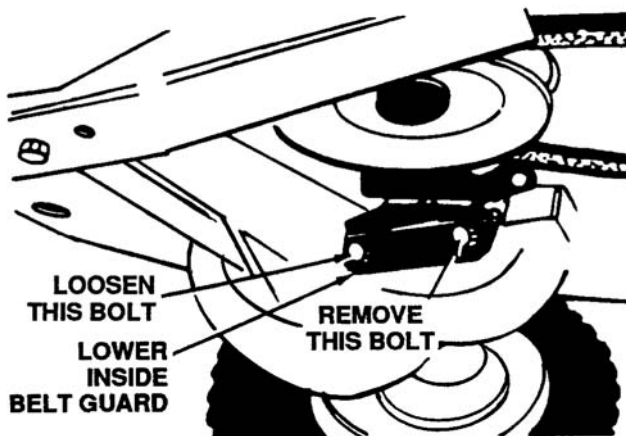

Figure 12-30. Removing Hex Bolt From Lower Inside Belt Guard
6. Remove the front hex bolt from the lower inside belt guard. Loosen the second bolt (do not remove) and pivot the guard downward. Slip the upper deck belt off the engine pulley. See Figure 12-30.